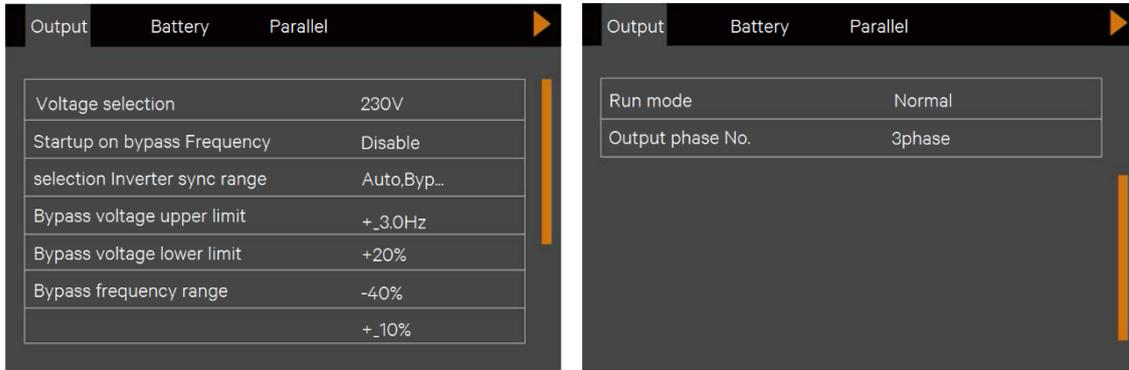

Figure 2-32 Output Interface
1) On the main menu screen, press the arrow keys  or  select the "Setup" menu and press the  key to enter the corresponding page. See the Figure2-32.